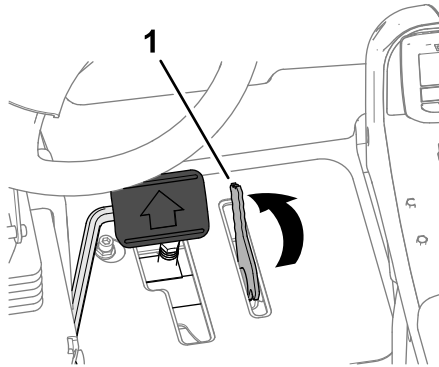

Figure 45
3. Use your foot to move the lever for the mow-speed limiter forward, to the Mow position (Figure 45).